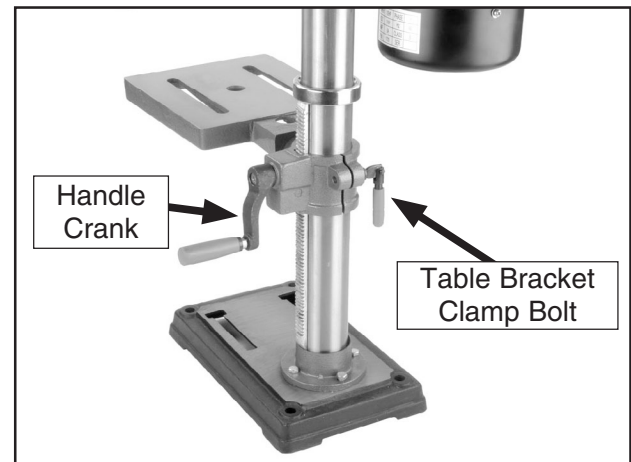

Figure 23. Table height controls (G7945).
1. Loosen the table bracket clamp bolt (**Figure 23**). Turn the handle crank to lift or lower the table.